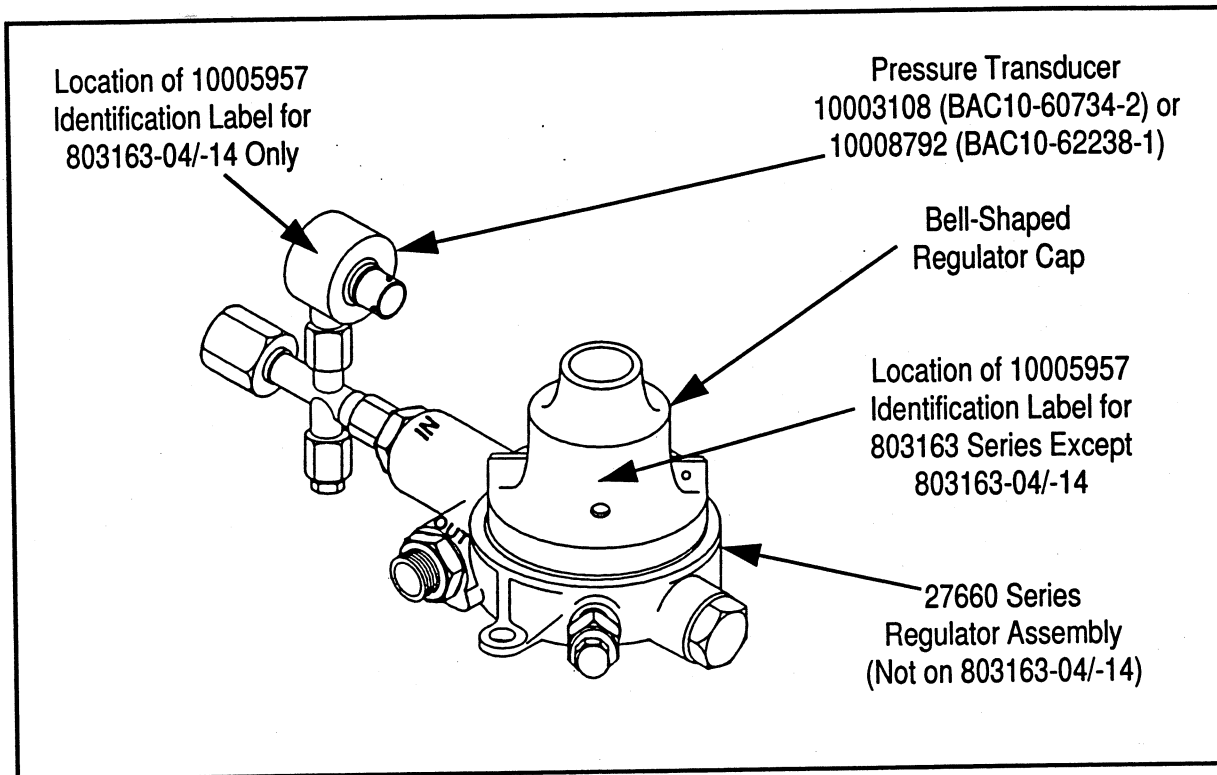

Figure 1
- (1) For the 803163-04 Regulator, Transducer and Coupling Assembly only, locate end-item Identification Label (P/N 10005957) located on side of Pressure Transducer 10003108 (BAC10-60734-2). Refer to Figure 1. Record part number and serial number listed on Identification Label onto a piece of paper.
- (2) Utilizing pertinent Component Maintenance Manual listed in Section 3. of this service information letter, remove Pressure Transducer 10003108 (BAC10-60734-2) from end-item assembly and replace with Pressure Transducer 10008792 (BAC10-62238-1).
- (3) Perform functional tests on end-item assembly as required by TESTING AND FAULT ISOLATION section of pertinent Component Maintenance Manual listed in Section 3. of this service information letter.
(1) Reidentification of 803163 Series, Except 803163-04/-14 (Refer to Figures 1 and 2)
(2) Reidentification of 803163-04/-14 (Refer to Figures 1 and 2)